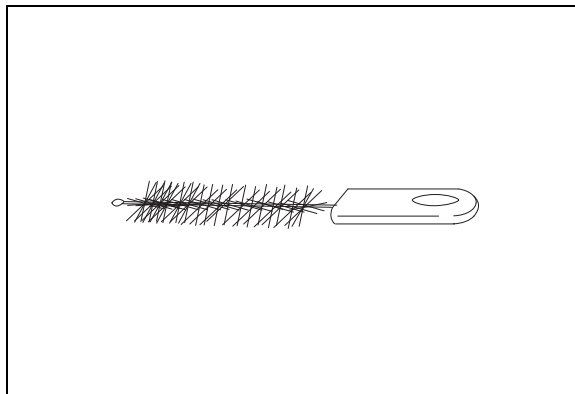

Figure 3.9
The channel-opening cleaning brush is used to brush the external surface of the distal end of the endoscope, the suction cylinder and the instrument channel port (see Figure 3.9).
1. Check for loose or missing bristles (see Figure 3.9).